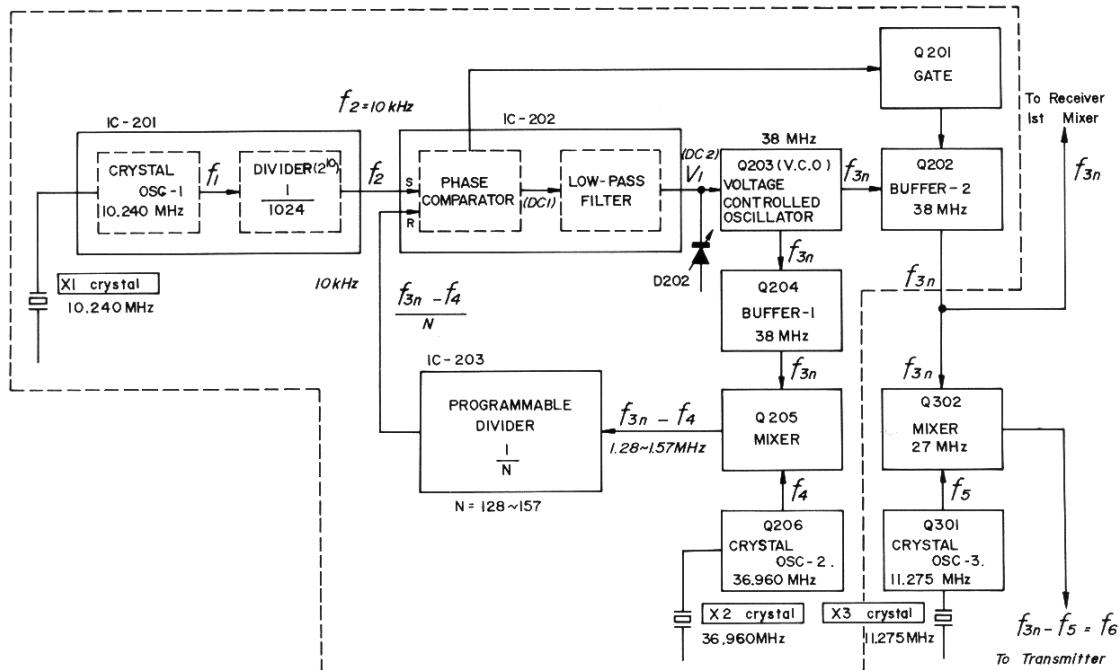

Figure 2 P.L.L. CIRCUIT FREQUENCY SYNTHESIZER
A DESCRIPTION OF PHASE-LOCKED-LOOP (P.L.L.) CIRCUIT (Figure 2)
the voltage controlled oscillator (or V.C.O.) Q203, the buffer amplifier Q204, the mixer Q205 and the programmable IC-203 as shown in Figure 2.
3) Frequency Determining (Refer to Figure 2)